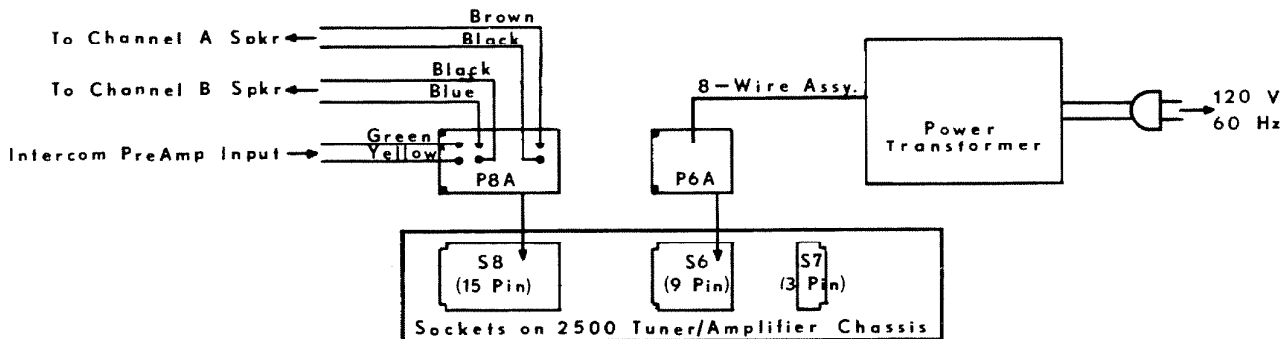

Fig. 1.38 — CONNECTING THE POWER SUPPLY SERVICE KIT TO RECEIVER CHASSIS
4. The POWER SUPPLY SERVICE KIT should be connected to the receiver chassis as shown in Fig. 1.38.
2. Connect POWER SUPPLY SERVICE KIT to receiver as directed above. (Fig. 1.38). Connect test speakers. (para. 5 & 6 above)